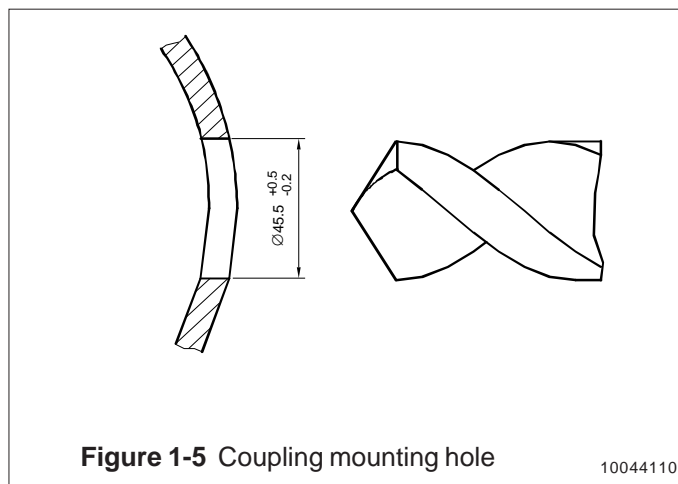

Figure 1-5 Coupling mounting hole
- Make a $\varnothing 45.5$ mm (+0.5/-0.2 mm) hole in the tank wall or pipe, as shown in Figure 1-5.